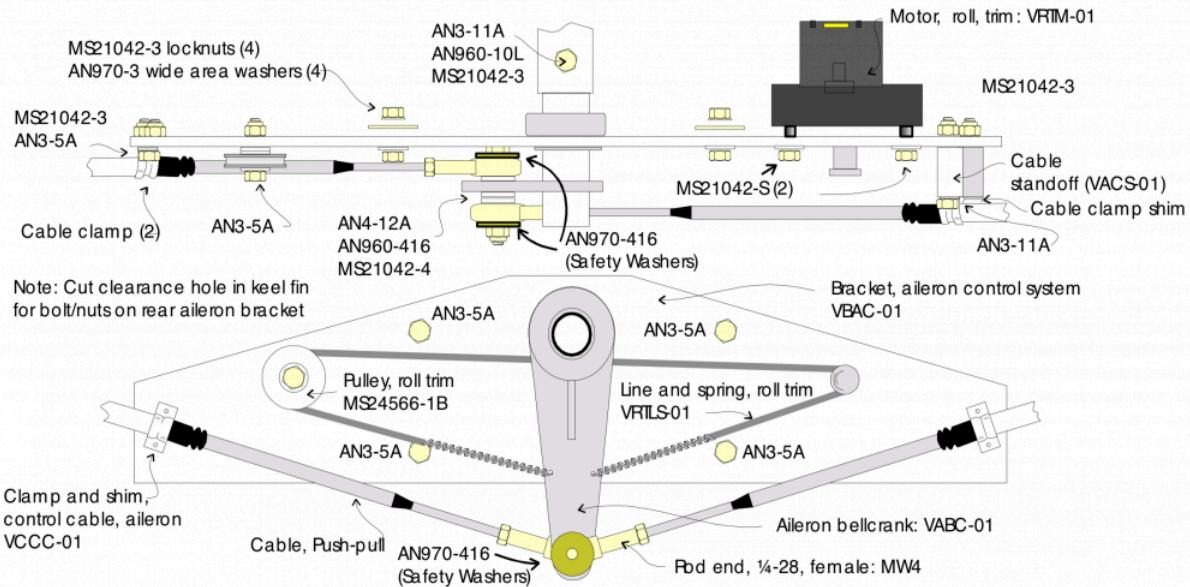

Figure 6-17. Aft Aileron Control Assembly
____ Mount this assembly against the aft side of the keel fin with the center of the bearing 1" below the top of the inside of the keel. See Figure 6-17 for bearing orientation. Use (4) AN3-5A bolts, AN970-3 washers, and MS21042-3 locknuts. Using the holes in the bracket as a guide drill through the fiberglass holes to attach the roll trim motor and shaft. Install the roll trim motor and pulley to the rear control bracket by inserting the studs on the motor through the plate and securing with two 3/16" locknuts. You will have to open up holes in the fiberglass to allow all the bolts except the four mounting bolts to tighten up against the aluminum control bracket.
___ Install the cables as shown in Figure 6-17 using the proper bolts, nuts, washers, shims, and spacers. This step can be done later, but make a note as to where to locate this information.